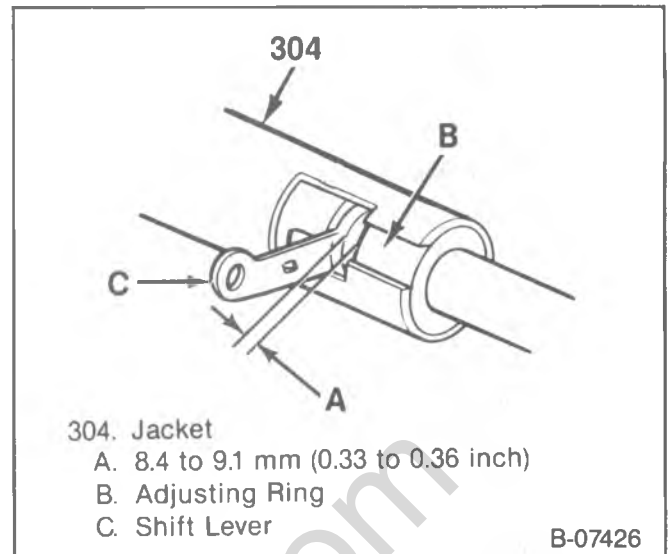

Figure 52—Shift Tube Adjustment—Automatic Transmission
2. Loosen the adjusting ring bolt (306).
3. Rotate the shift tube adjusting ring to obtain a 8.4 to 9.1 mm (0.33 to 0.36 inch) clearance between the shift tube lever and adjusting ring (figure 52).